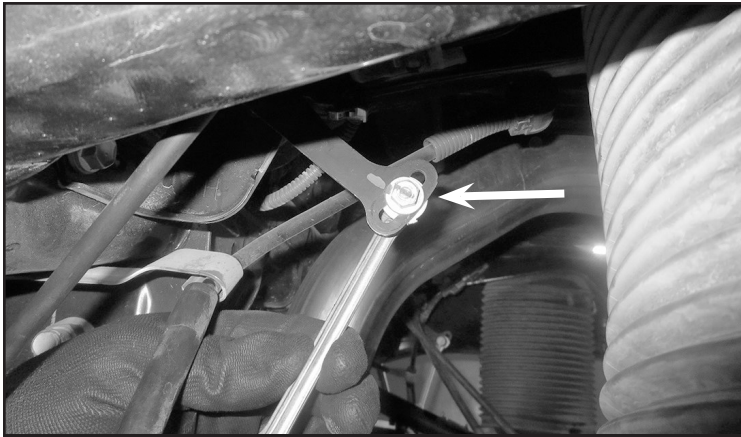

FIGURE 22 - STEP 28
28. On the same height adjustment rod. Loosen the upper nut to position to the center of the frame bracket. Then re tighten. **SEE FIGURE 22**